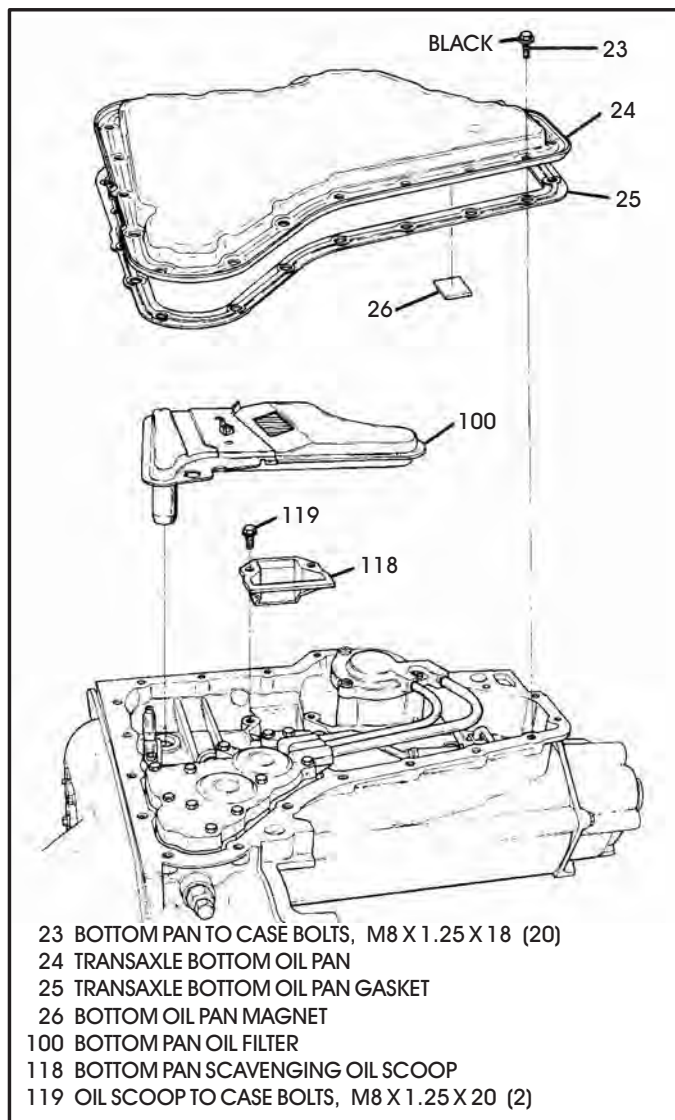

Figure 219
14. Lube new bottom pan filter neck with a small amount of Trans-Jel®, and install filter into the seal, as shown in Figure 219.
15. Install new bottom pan gasket onto transaxle case, as shown in Figure 219.
16. Install the bottom transaxle oil pan, as shown in Figure 219.
Note: Ensure that the bottom pan magnet is in place before installing (See Figure 219).
17. Install the 20 bottom oil pan retaining bolts, as shown in Figure 219, and torque the bolts to 17 N·m (13 ft.lb.).